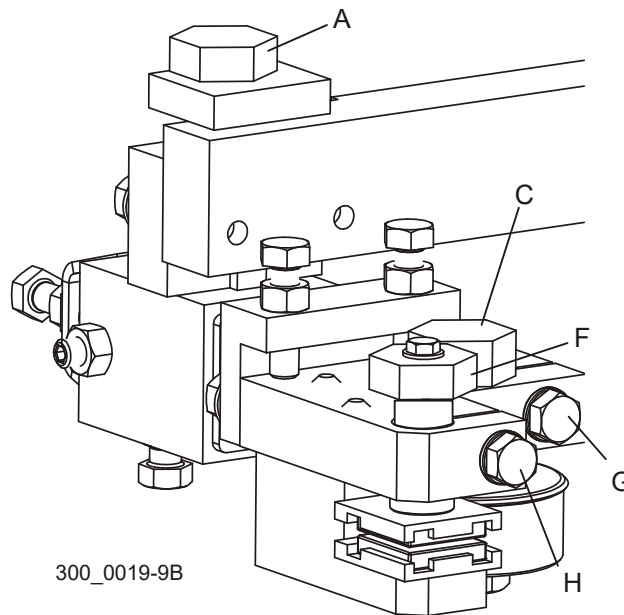

FIG. 6-3
See Figure 6-3. Adjust the blade guides so they do not touch the blade in any way. Loosen clamp bolt (H) and turn the top guide block bolt (F) counterclockwise to raise the top guide block off the blade. Turn blade guide assembly bolt (A) counterclockwise to move the bottom guide block down off the blade. Check that the blade guide roller does not touch the blade. Loosen clamp bolt (G) and turn roller bolt (C) if necessary to move